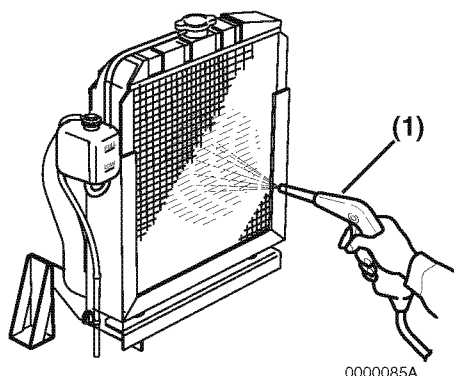

Figure 11
Note that a typical radiator is shown in **Figure 11** for illustrative purposes only.
- Blow off dirt and dust from fins and radiator with 28 psi (0.19 MPa, 2 kgf/cm²) or less of compressed air (**Figure 11, (1)**). Be careful not to damage the fins with the compressed air.